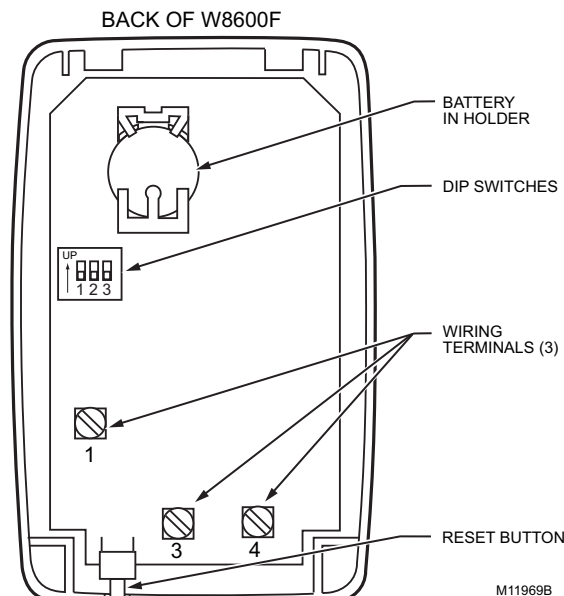

Fig. 11. Wash Frequency Options.
Refer to Table 2 to select the wash frequency. Set the W8600F DIP switches to match the selection. See Fig. 11. The time listed represents actual run time of the EAC, not calendar days.
2. Connect the wires to terminals 1, 3 and 4 on the W8600F. See Fig. 11.